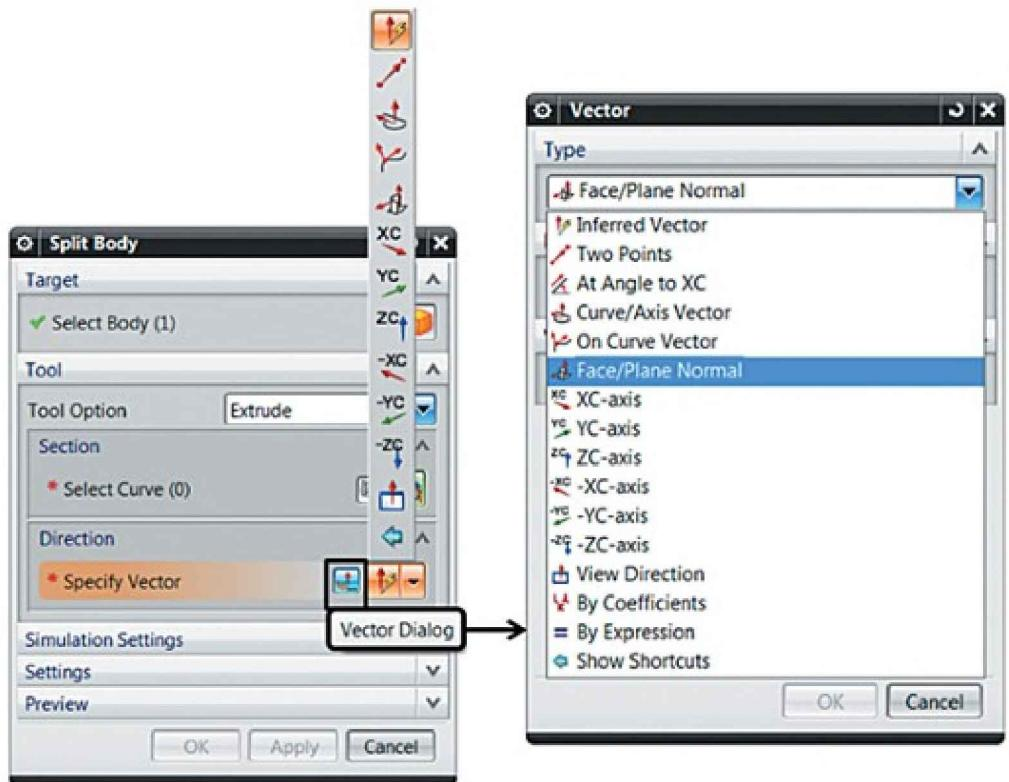

Figure 2.9. Split Body dialog box, specifying an extrusion vector
- Select a tool in the **Vector** dialog box by choosing the **Vector Dialog** menu command. or by selecting it in the tool drop-down list (Figure 2.9).